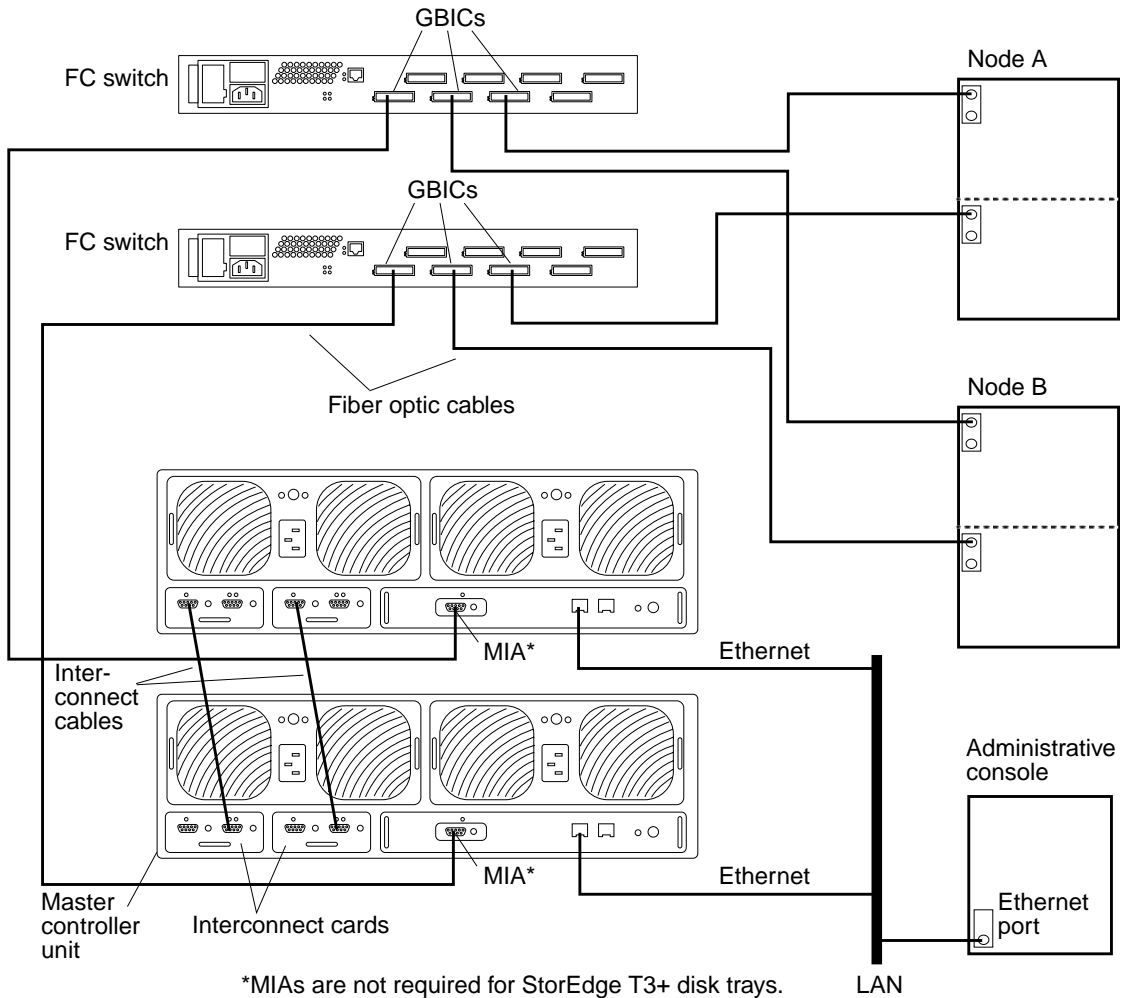

FIGURE B-1 StorEdge T3/T3+ Disk Tray Partner-Group (Interconnected) Controller Configuration
Install the media interface adapters (MIAs) in the StorEdge T3 disk trays you are installing as shown in FIGURE B-1.
4. If necessary, install GBICs in the FC switches, as shown in FIGURE B-1.
6. Cable the disk trays (see FIGURE B-1):
The master controller unit is the disk tray that has the interconnect cables attached to the right-hand connectors of its interconnect cards (when viewed from the rear of the disk trays). For example, FIGURE B-1 shows the master controller unit of the partner-group as the lower disk tray. Note in this diagram that the interconnect cables are connected to the right-hand connectors of both interconnect cards on the master controller unit.